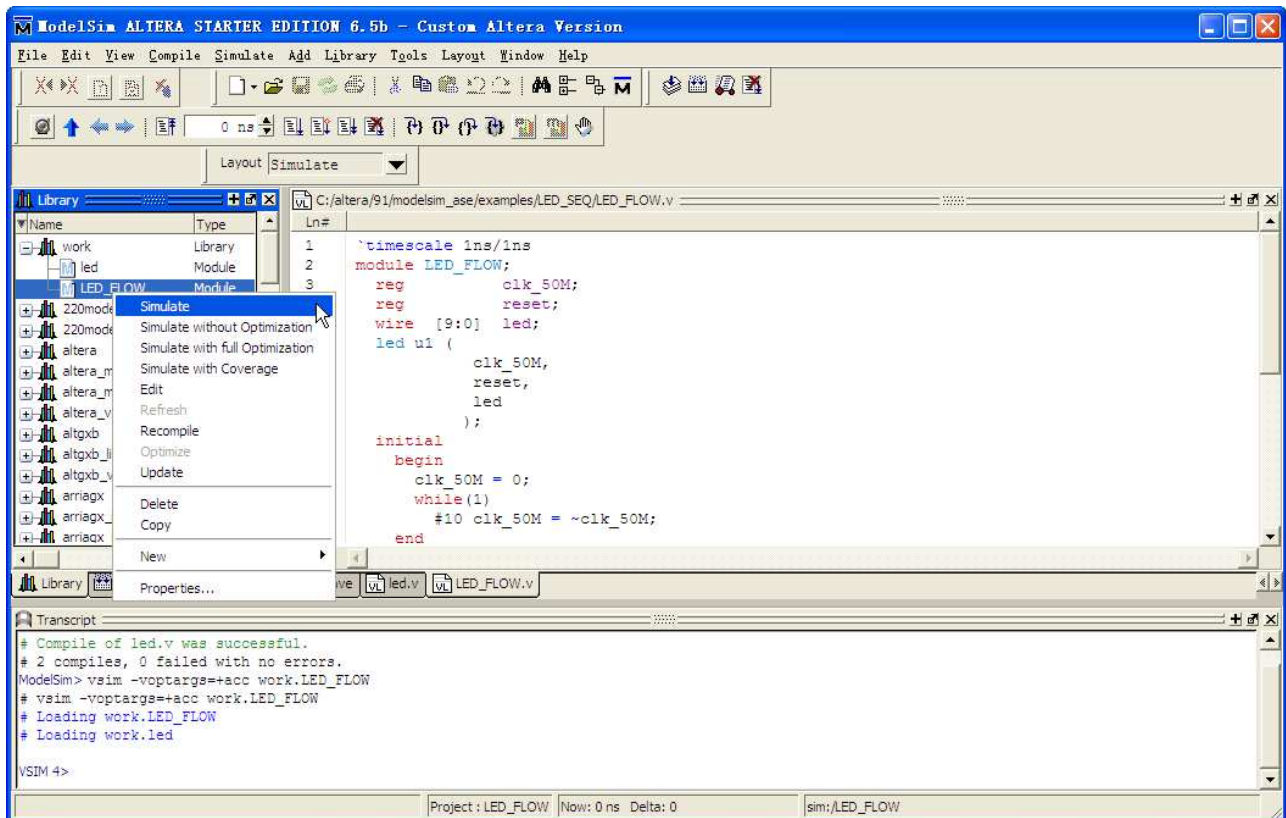

Figure 3.1 Click Simulation
1. Click **library** icon, select **work**, and click **+** to expand the options, then select **LED\_FLOW**, click the right mouse button, finally select simulation, shown in Figure 3.1.